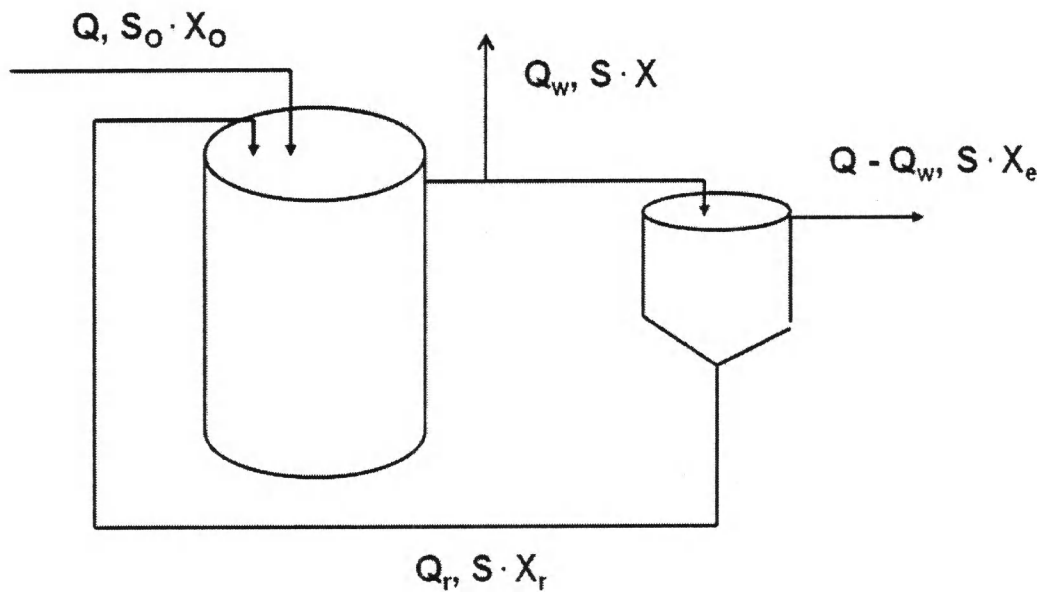

Fig. 1 : Schematic diagram of Activated Sludge System with wasting from aeration tank
6. A schematic diagram of an activated sludge process with an arrangement of wasting sludge from the aeration tank is shown in the Fig. 1 below. Considering a system boundary including the aeration tank and the secondary clarifier, answer the followings.
- (a) Suggest an appropriate caption of the Fig. 1 .
(b) Write the conclusions which you can draw from Fig. 1 .